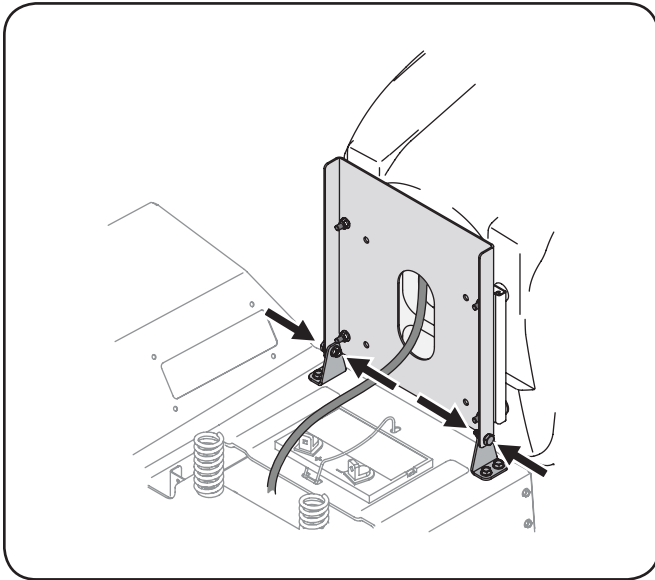

Figure 3-4
- Rotate the seat into position and secure the seat into place with the previously removed shoulder bolts and lock nuts. Be careful not to crimp or damage the wire harness while installing the seat. See Figure 3-4.